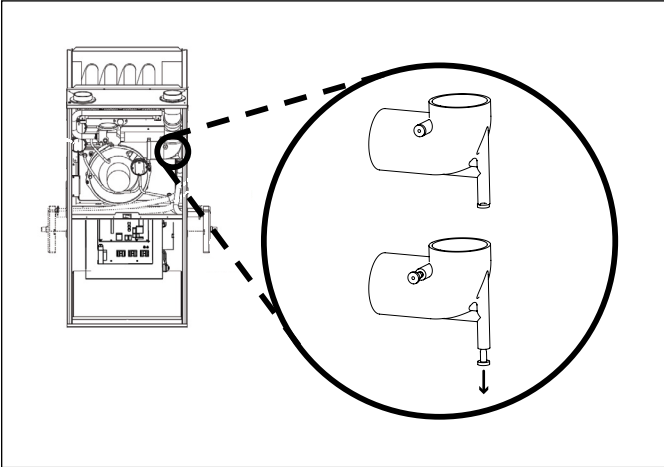

Figure 13
- 4. Remove cap from the inducer drain port (see Fig. 13).
8. Cut and remove 1/4" from the end of the inducer drain port. Reference Figure 13.